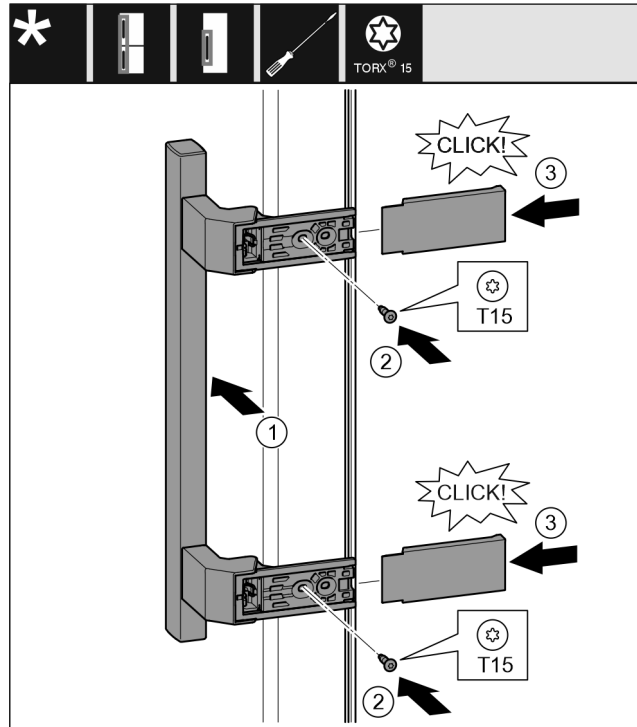

Fig. 22
- ▶ Position the handle on the opposite side. *Fig. 22 (1)*
- ▶ The screw holes must be exactly above each other. *Fig. 22 (2)*
- ▶ Tighten the screws using the T15 screwdriver. *Fig. 22 (3)*
- ▶ Position the covers on the side and push them on. *Fig. 22 (4)*
- ▶ Ensure that they latch into place correctly. *Fig. 22 (5)*